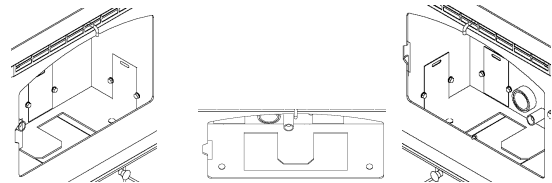

FIGURE 26
- Scrape ash in firebox into the pedestal ash bin through the opening in the bottom of the firebox or vacuum to remove ashes (see Figure 26).
- b. **Interior Chambers** – Four ash doors in the firebox in the P23 can be removed for periodic cleaning (refer to figure 26). These doors allow access to the chamber surrounding the firebox.